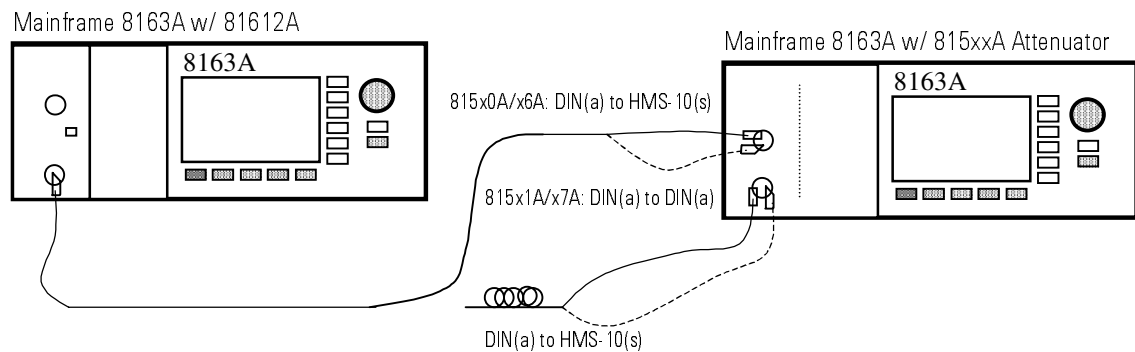

Figure 15 Return Loss Test Setup
- 11** Remove the reference cable and connect the equipment as shown in Figure 15.